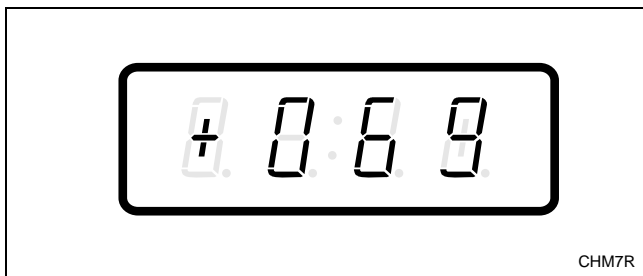

Figure 169
3. Press the DELICATES (+) or the COLD (-) keypad to scroll through the programmable options until “+069” appears in the VFD. Refer to *Figure 169*.